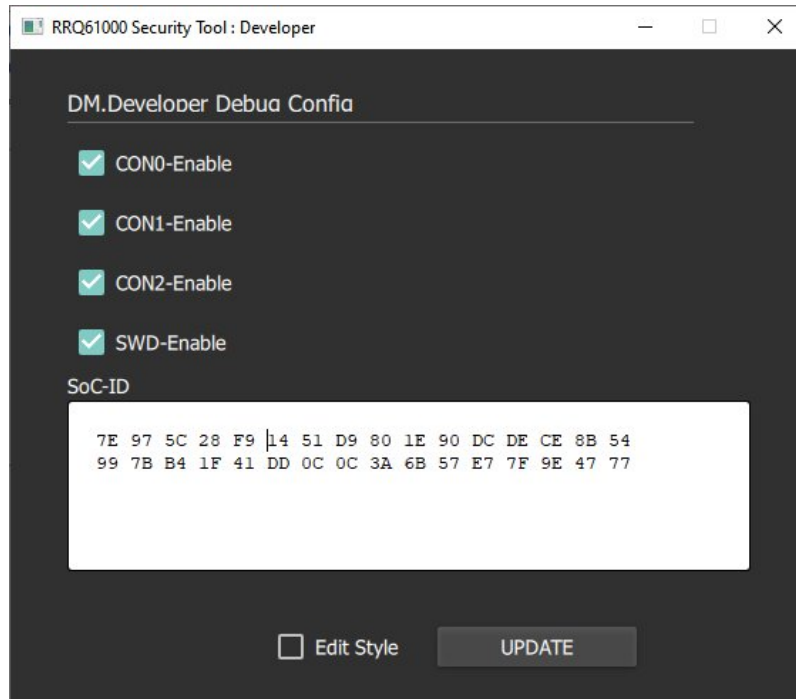

Figure 42. Fill the SoC-ID field and update
3. Copy the SoC-ID displayed in the console to the input field shown in Figure 42, and then click **Update** to continue.